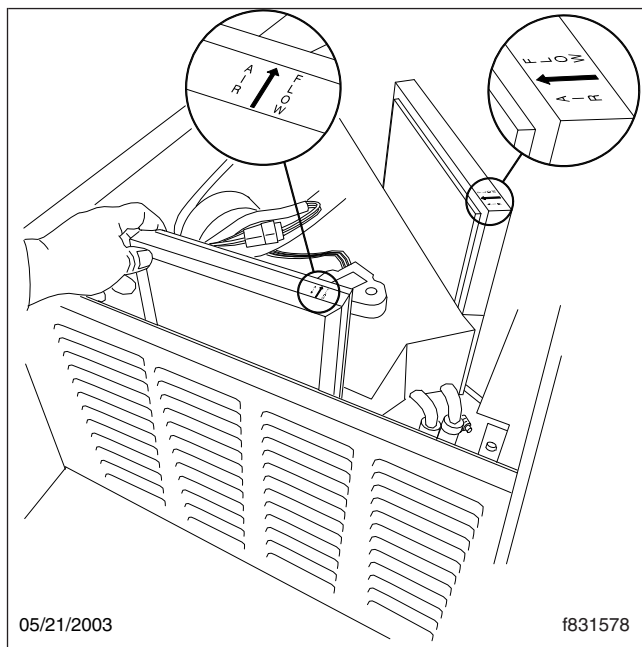

Fig. 5, Orientation of Sleeper Fresh-Air Filters
3. Remove the air filters from the sleeper HVAC assembly. See Fig. 5.
4. Install new air filters in the sleeper HVAC assembly. Make sure the arrow on the air filter is pointing toward the sleeper HVAC assembly; see Fig. 5.
5. Install the air filters in the sleeper HVAC assembly. Make sure the arrow on the air filter is pointing toward the sleeper HVAC assembly; see Fig. 5.